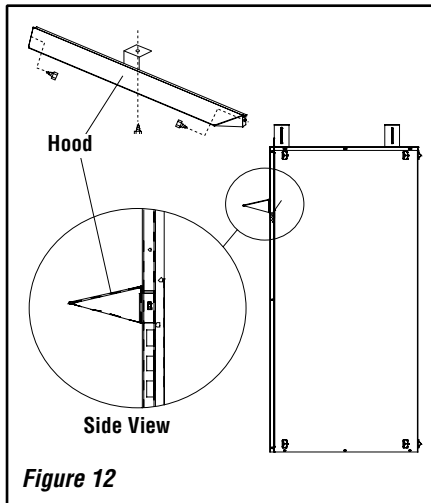

Figure 12
**NOTE:** This hood is optional. See Figure 12.
- Step 2.** Align the hood with the holes in the side frames as shown in Figure 12. Install three screws as shown in Figure 12. Make sure hood is level and secure.